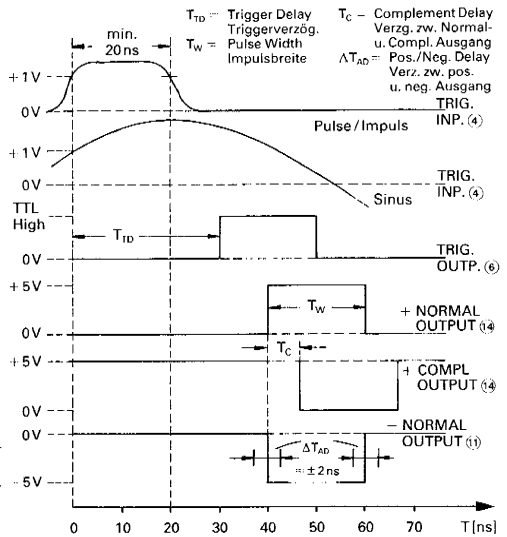

Fig 3 Output signals during external triggering
This example shows that a pulse duty factor of $\leq 99.999996\%$ can be obtained with minimum frequency (2Hz) and pulse duration (200ns). For circuit design reasons, normal and inverted pulses are offset against each other by a fixed time period of less than 10ns (see fig. 3).
If the FREQUENCY switch (2) is set to MAN or EXT position, the internal pulse rate generator is switched off. In this case a signal applied to trigger input (4) determines the pulse repetition frequency of the output signals. As in normal operation, the pulse duration is adjusted with (9) and (8). However, the generator is no longer in symmetrical operating condition. The output signals are triggered with the rising, positive pulse edge. The trigger signal can consist of an AC voltage of $> 1V_p$ or of a rectangular voltage with an amplitude of $> +1V$. The input is TTL-compatible with "1" fan-in. The maximum input voltage can be $\pm 30V$. The minimum pulse duration should not be less than 20ns. The trigger delay from trigger input to trigger output is about 20ns (see fig. 3).